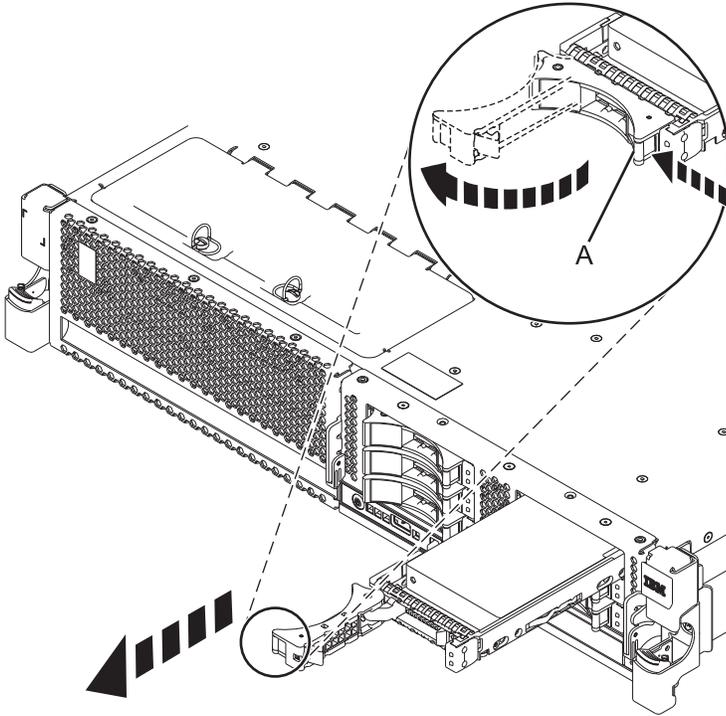

Figure 28. Removing a disk drive from the 8231-E2B, 8231-E1C, or 8231-E2C
1. Unlock the disk drive handle by squeezing it and pulling it out toward you, as shown in Figure 28 on page 56.